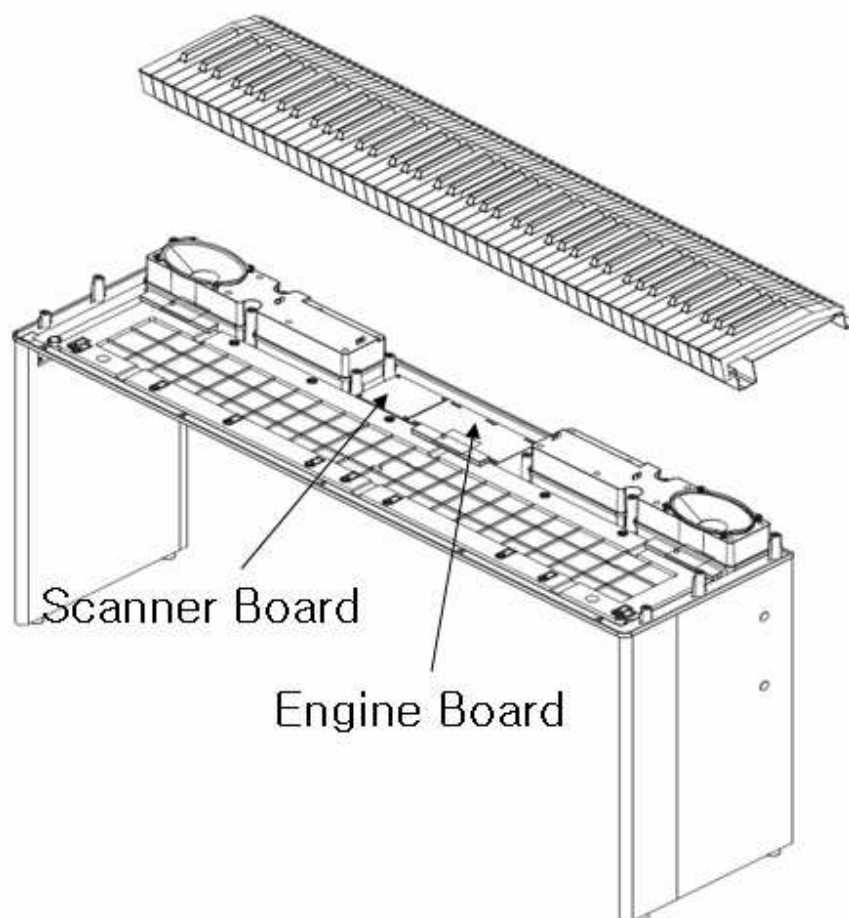

Figure 3-2 SP2XS Keyboard assembly
2. Refer to figure3-2 (board position)